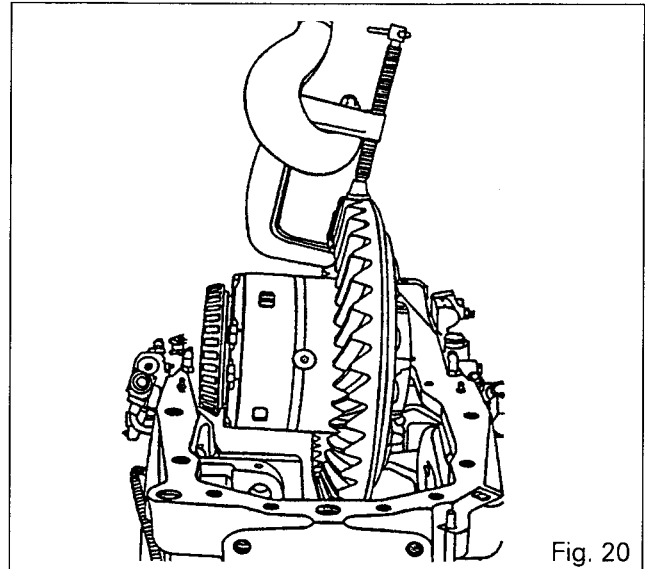

Fig. 20
92. Place the differential assembly in the housing (Fig. 20).
94. Remove the cup (14) and the deflector [13] of the left hand carrier (9).
95. Place the cup on the bearing cone (17).
96. Mount tool 3376847 M91 in the housing using two bolts (2) tightened to a torque of 85 - 130 Nm (Fig. 20).
97. Tighten the central screw of the tool to a torque of 10 Nm (Fig. 20).
98. Fit and tighten the hexagonal calibrated spacers (A) (Fig. 20) in the two other holes. Ensure they are in contact with the housing.